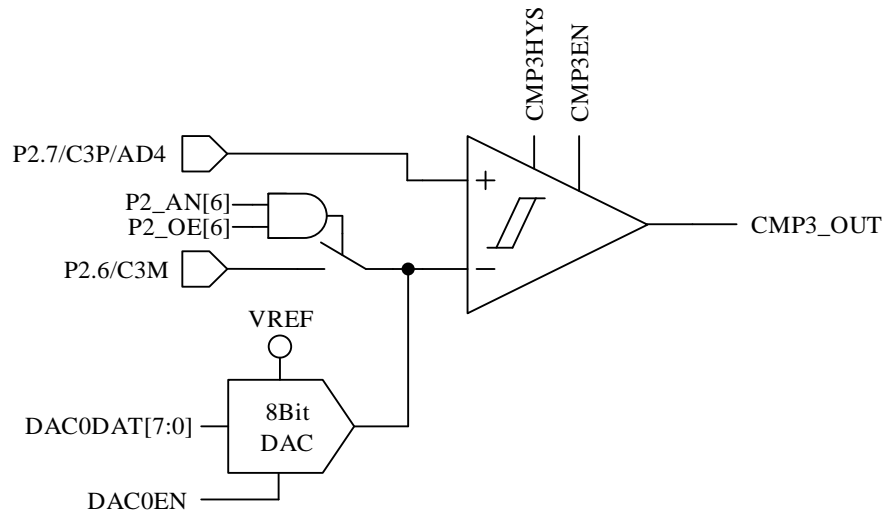
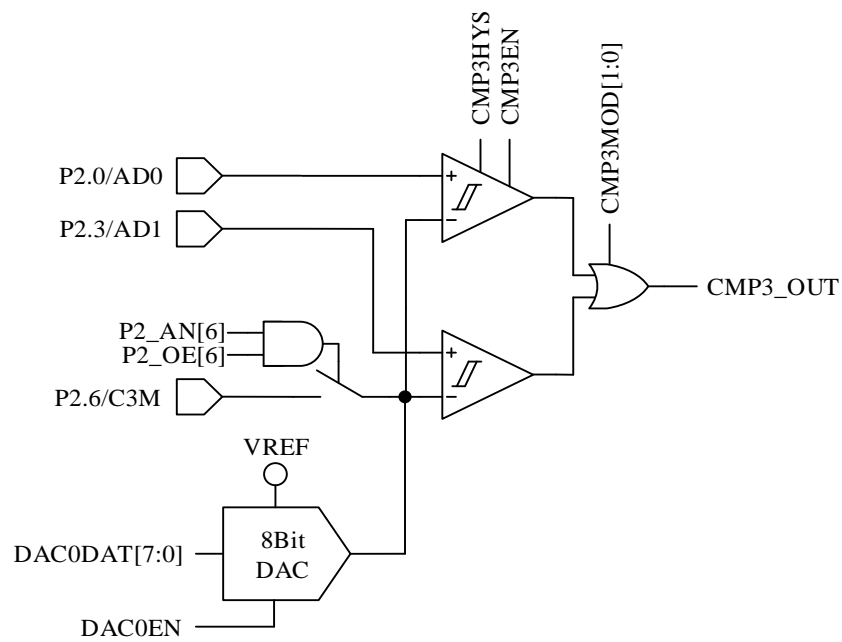
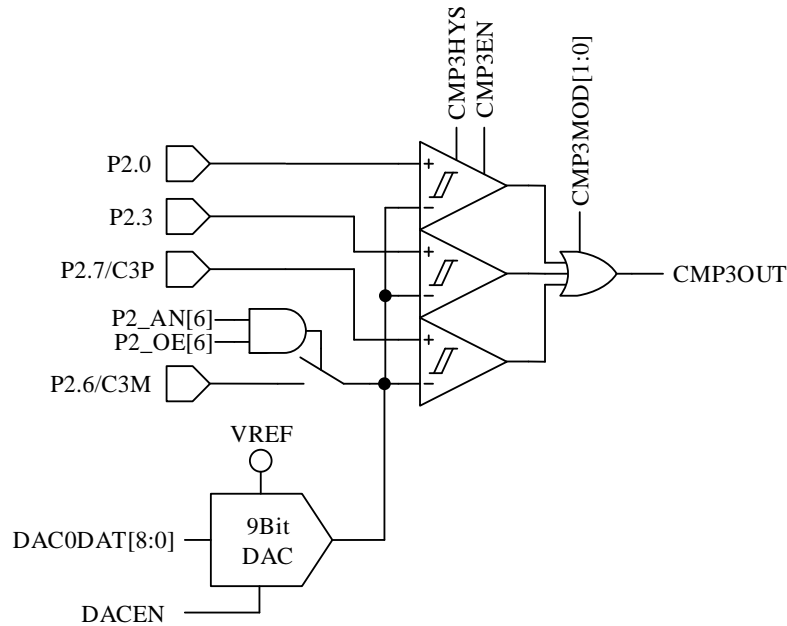

Figure 28-2 Single-comparator Input Mode
Figure 28-3 Dual-comparator Input Mode
Figure 28-4 Triple-comparator Input Mode
- When CMP\_CR1[CMP3MOD] = 00, CMP3 works in single comparator input mode. The connection of input and output pins are shown in Figure 28-2.
- When CMP\_CR1[CMP3MOD] = 01, CMP3 works in dual comparator input mode. The connection of input and output pins are shown in Figure 28-3.
- When CMP\_CR1[CMP3MOD] = 1X, CMP3 works in triple comparator input mode. The connection of input and output pins are shown in Figure 28-4.
| [6:5] | CMP3MOD | CMP3 Mode SelectionNegative input connected to P2.6 or DAC0 output00: Single-comparator mode; P2.7 is connected to the positive input. See Figure 28-2.01: Dual-comparator mode; P2.0 and P2.3 are connected to the positive inputs. See Figure 28-3.1X: Triple-comparator mode; P2.0, P2.3 and P2.7 are connected to the positive inputs. See Figure 28-4. |     |        |         |         |     |     |